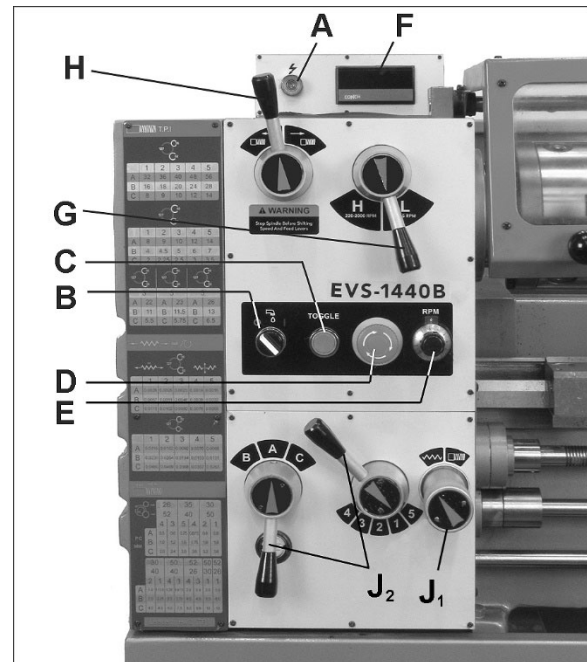

Figure 10-4
To obtain various feed settings and thread pitches, the knob and two levers (J, Figure 10-4) are used conjunctively. Position the levers according to the Feed and Thread Chart on front of end cover. An identical chart is shown in sect. 13.0.
1. Move feed direction lever (H, Figure 10-4) for right-hand or left-hand threads.
2. Set spindle to low speed range (G/E, Figure 10-4). Use lowest speed possible when threading.
3. Turn knob (J₁, Figure 10-4) clockwise to disengage feed rod.
4. Select desired thread using thread pitch levers (J₂, Figure 10-4), referring to charts on end cover.